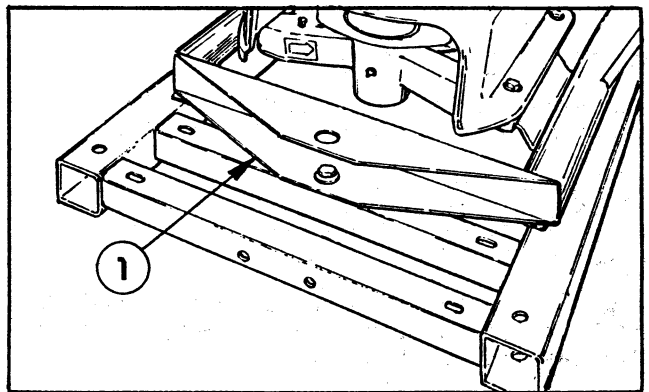

Figure 5
3. Align the Spreader's rear mounting plate as shown in Figure 5 and secure it to the Skid with a 5/8 x 2" bolt, four washers and a hex nut.